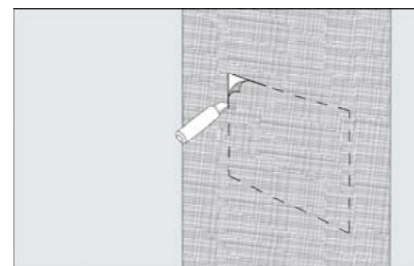

Fig. 5.
STEP 6: With the sharp knife, carefully cut out as a single piece the portion of the loose Membrane over the Easyniche cavity. (Fig 5).